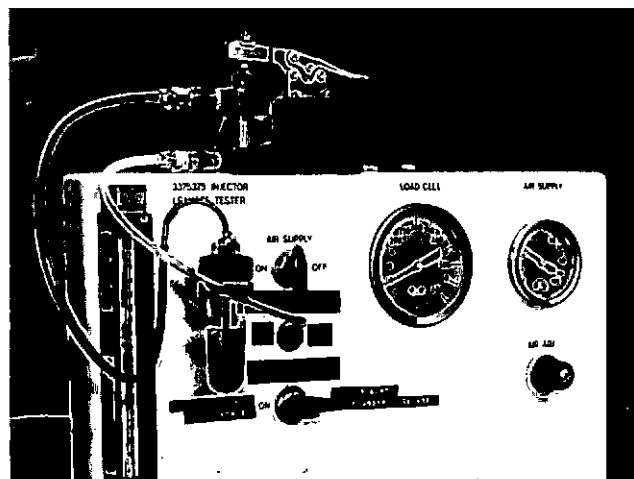

Fig. 2-21, (F60290). Service tool attached to, Part No. 3375375 tester.
1. Attach one air supply hose to the lower connection and one hose to the upper connection, Fig. 2-21.